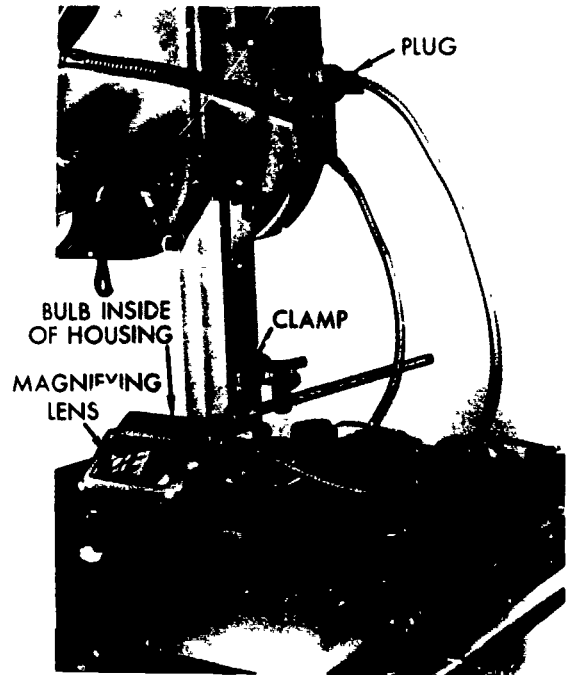

Figure 3-19 Magnifying attachment.
**Magnifying Attachment.** The magnifying attachment, shown in figure 3-19, consists of a 3-inch rectangular lens mounted in a flanged housing. The housing contains a light socket for a 15-watt candleabra-type lamp. The lens and light are supported on an arm which is secured to the post by means of a C-type clamp. The arm has universal joints, which permit you to set the glass at any position for both sawing and filing. A special plug connector on the extension cord connects with the outlet cap located on the front of the machine above the table light outlet. This outlet is fused for 1 ampere; you should not use it for any other light extension where more than 15 watts will be consumed. You use the magnifying attachment when precision sawing and filing to close tolerances are required.